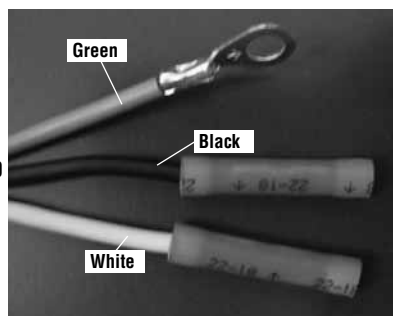

Figure 2
Step 2. Look at **Figure 2 through 6** to identify the correct connectors needed for your appliance. Locate the same connectors provided in this kit.
Step 4. Models in Figures 2, 3 and 4 Only - Using a 5/32" allen wrench or T-handle wrench, remove the ground screw and star washer (for green wire) on the existing power cord.
Step 5. Models in Figures 2, 3 and 4 Only - Unplug the two connectors on the existing power cord. Install the new power cord by securing the green wire with the screw and star washer (provided). Plug in the two connectors on the power cord into the corresponding connectors on blower assembly or appliance.